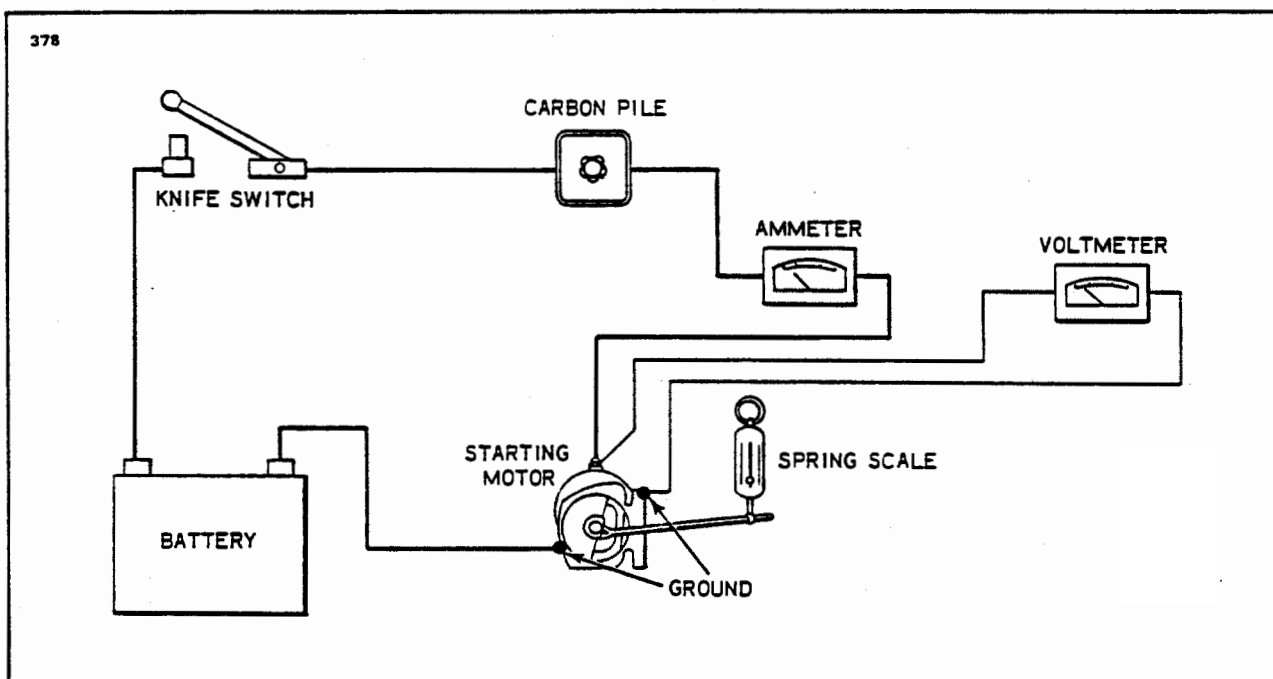

Figure 11-25. Stall Torque Hookup
b. If no difficulty is indicated in the above test, a stall torque test may be made to see if the starting motor is producing its rated cranking power. Make test connections as shown in Figure 11-25.